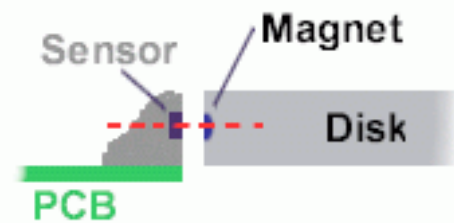

Figure 9 Ensure correct alignment of magnet disk and sensor.
- Take care that the magnets in the disk are approximately in the same height as the sensor, see figure 9.